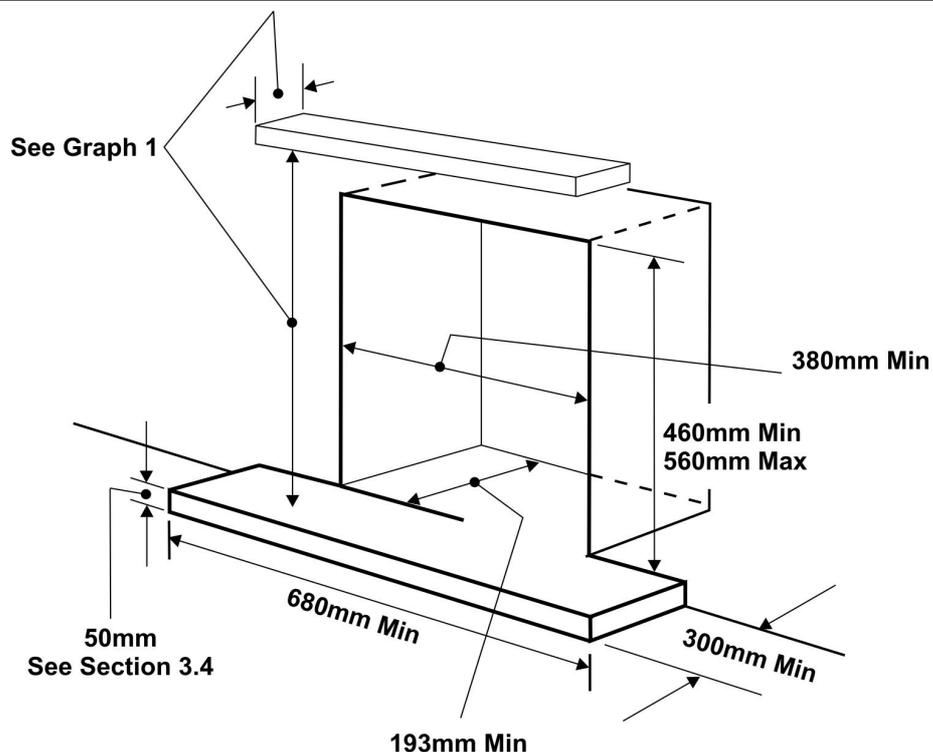

Figure 1. Hearth and fireplace opening
- To a fireplace complete with surround and hearth as shown in figure 1 and complying with BS1251. The required fireplace, hearth, and clearance dimensions are shown in figure 1. For fireplace openings having dimensions different to those shown in figure 1 refer to Table 1 and BS 5871-Part 3 for flue sizes.
3.4 The appliance must be mounted behind a non-combustible hearth (N.B. conglomerate marble hearths are considered as non-combustible). The appliance can be fitted to a minimum class “O” – 100°C surround. The hearth material must be at least 12mm thick. The periphery of the hearth (or fender) should be at least 50mm above floor level to discourage the placing of carpets or rugs over it (See figure 1).
It is recommended that a hearth should be installed as in figure 1.